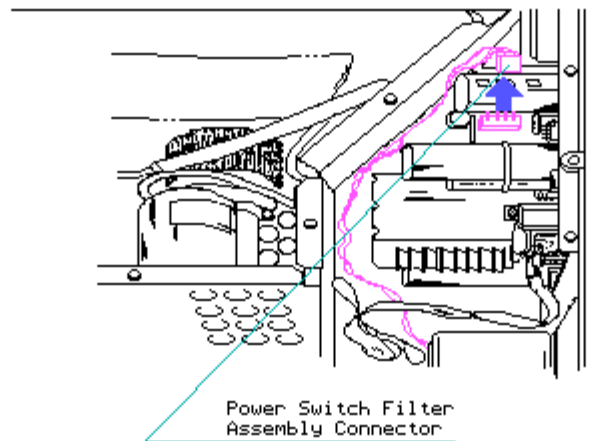

Figure 7.8-19. Disconnecting the Power Switch Filter Assembly Connector
2. Carefully disconnect the power switch filter assembly connector from the power supply assembly (Figure 7.8-19).